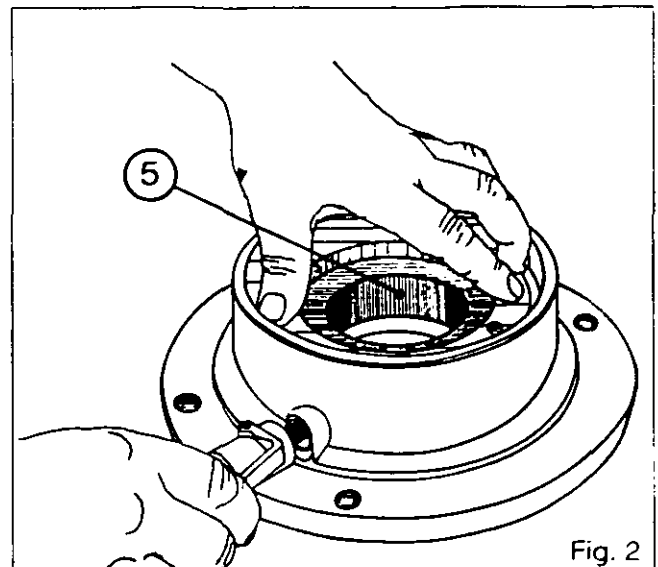

Fig. 2
5. Withdraw the bearing cup (14) and the deflector (13).
6. Remove the circlip (4).
7. Withdraw the piston (5) with the aid of a jet of compressed air (Fig. 2). Exercise caution.
8. Remove the O-rings (3), (8) and (1).
9. Unscrew the finger (12) (if necessary).
26. Immobilise the tractor. Apply the handbrake. Chock the front wheels and the axle frame (see 3A.02 - Fig. 2).